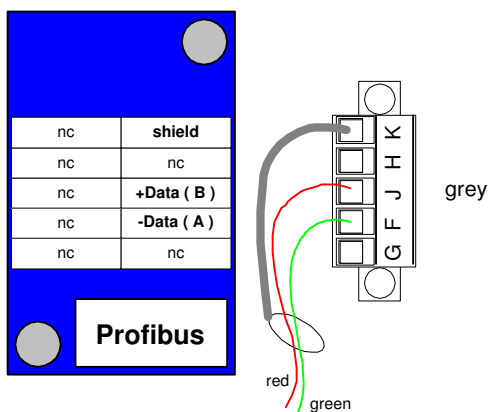

Figure 5-7: Pin Assignment for the Profibus-Net Data Cable
- The pin assignment is shown in the Figure 5-7 at top.